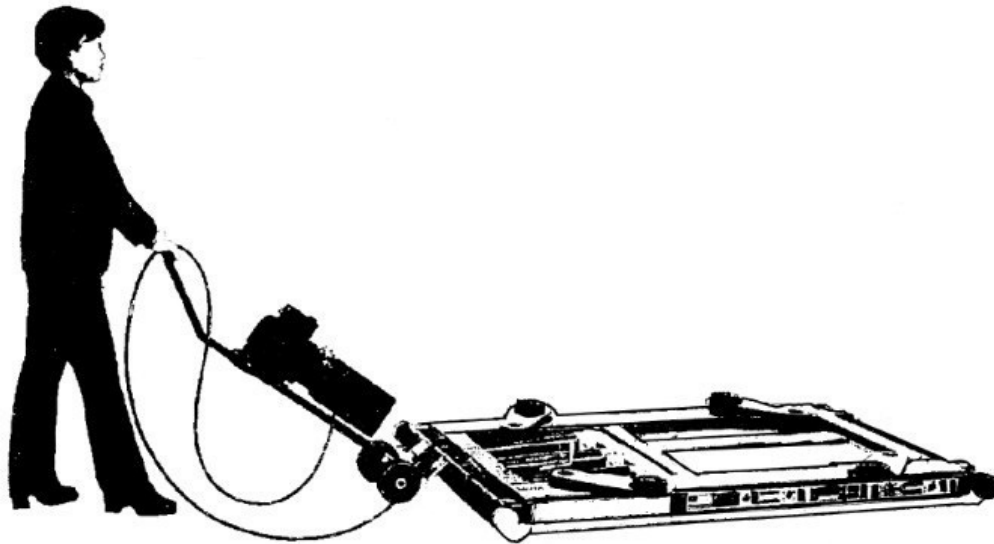

fig 4
3. Connect the dolly connection with the lift connection, press the dolly until the lift leave floor. (as shown on fig 4)